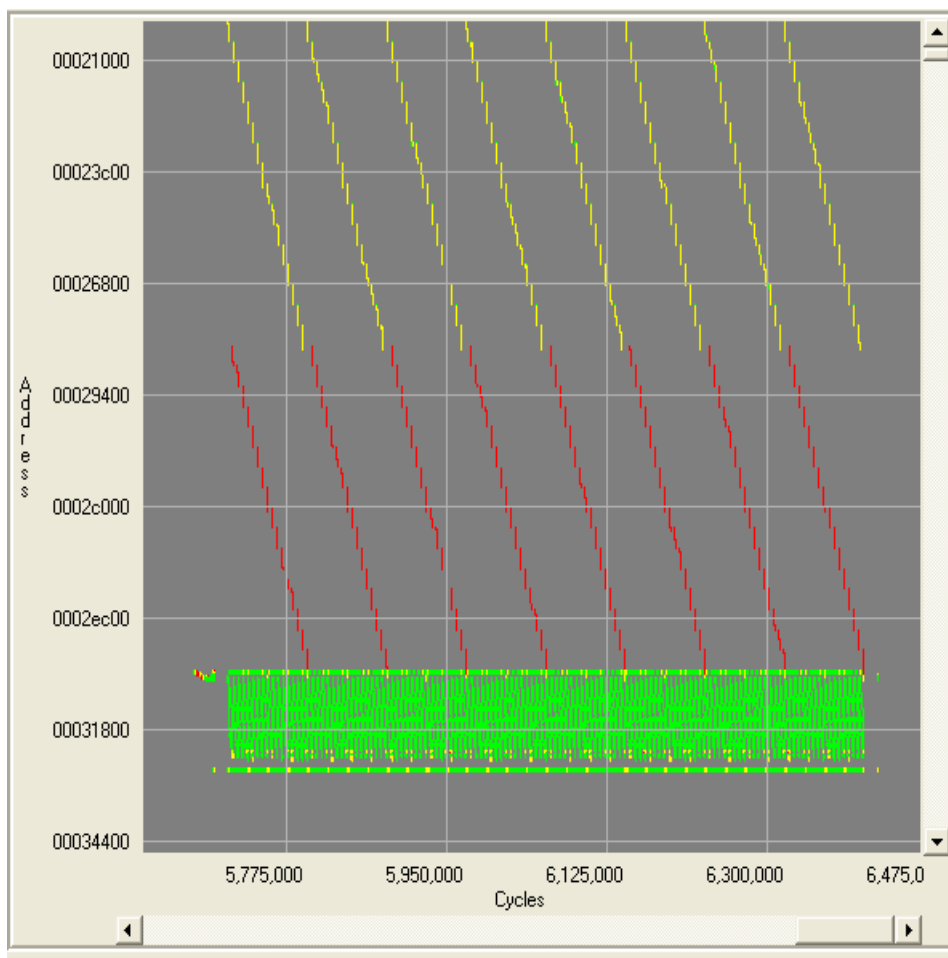

Figure 19. Data Cache Accesses After Restructuring
13. Click the data cache tab of CacheTune and then click on the Zoom in Area button  to view the data cache accesses again. A screen shot is shown in Figure 19.